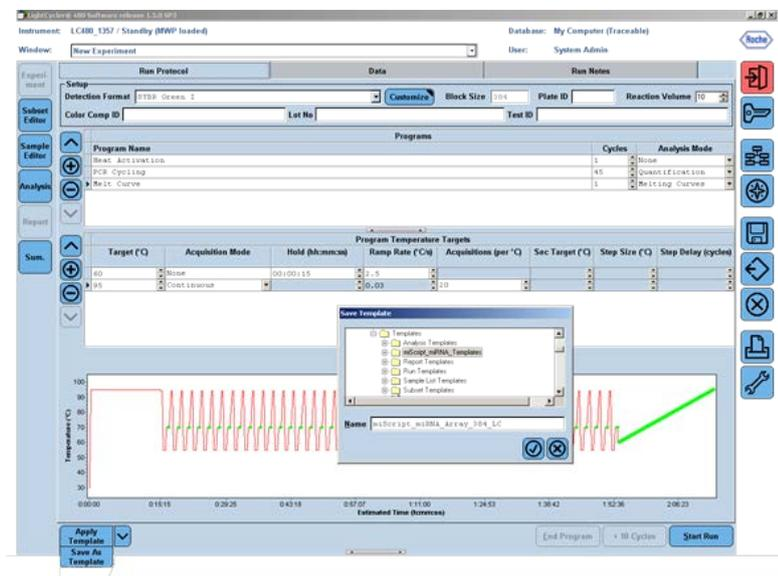

Figure 6. Saving the “Run Template” file.
10. Click the down arrow button (▼) right next to the “Apply Template button on the lower left corner of the screen; select the Save As Template button (Figure 6) to save the run template under the filename “miScript_miRNA_PCR_Array_384_LC” if using the 384-well format or “miScript_miRNA_PCR_Array_96_LC” for if using the 96-well format.